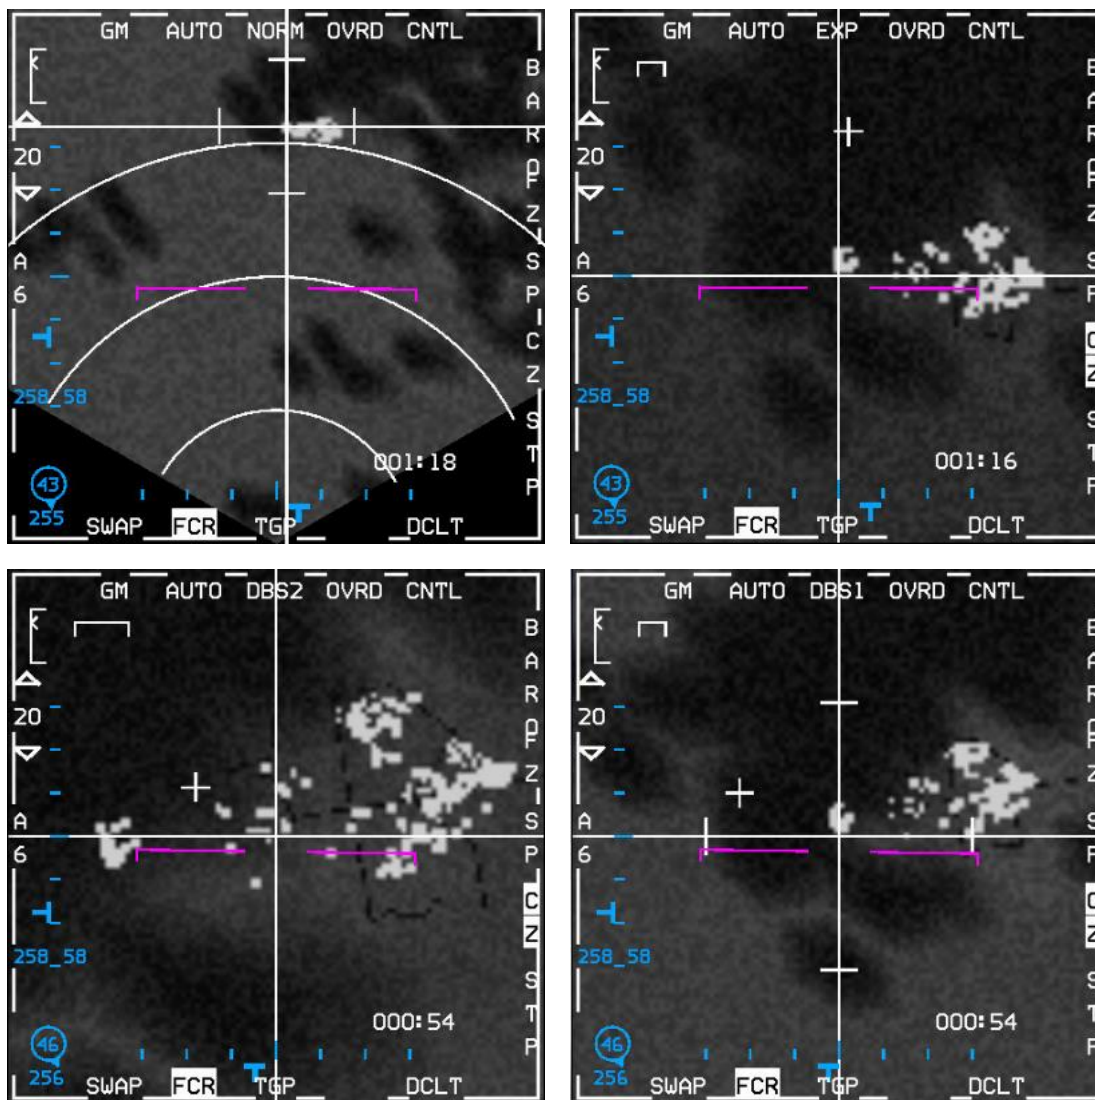

Figure 43 GM FOV options (clockwise from top left: NORM, EXP, DBS1 and DBS2)
- 1.4.5.1.3.2 Expansion Cues. In the normal GM, SEA and GMTI displays, four expansion cues (tick marks) are provided on the X-Y cursors to define the area that would be displayed upon selection of the EXP FOV. Similarly, in the GM mode, when the DBS1 FOV option has been selected, expansion cues will be provided to define the area that will be displayed upon selection of DBS2. (See Figure 43 above - note the cursor was slewed to the right and up to encompass the whole area of interest before the screenshot was taken for the DBS2 image above.)
GM mode is designed to provide a map display on the MFD suitable for navigation and for target detection. Weapons delivery is supported by a ground stabilized cursor whose position is indicated on the map display and is used to centre the scan coverage. GM returns are displayed on a plan position indicator (PPI) (polar coordinates) sector format. The submodes EXP, 8:1 DBS1, and 64:1 DBS2 magnify a patch of the PPI sector resulting in increased resolution of the map and more precise cursor placement. See Figure 43 for all available expanded FOV options.